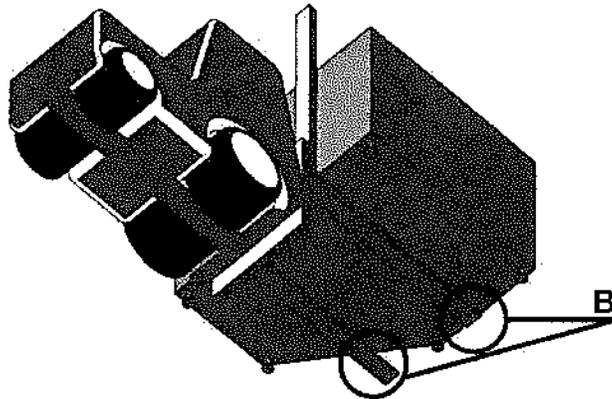

fig.11
- The forks must support the baseframe for all its length (B). Make sure that the forks of the forklift truck are sufficiently long to support the machine in its complete depth. This will avoid instability during transport (fig.11)